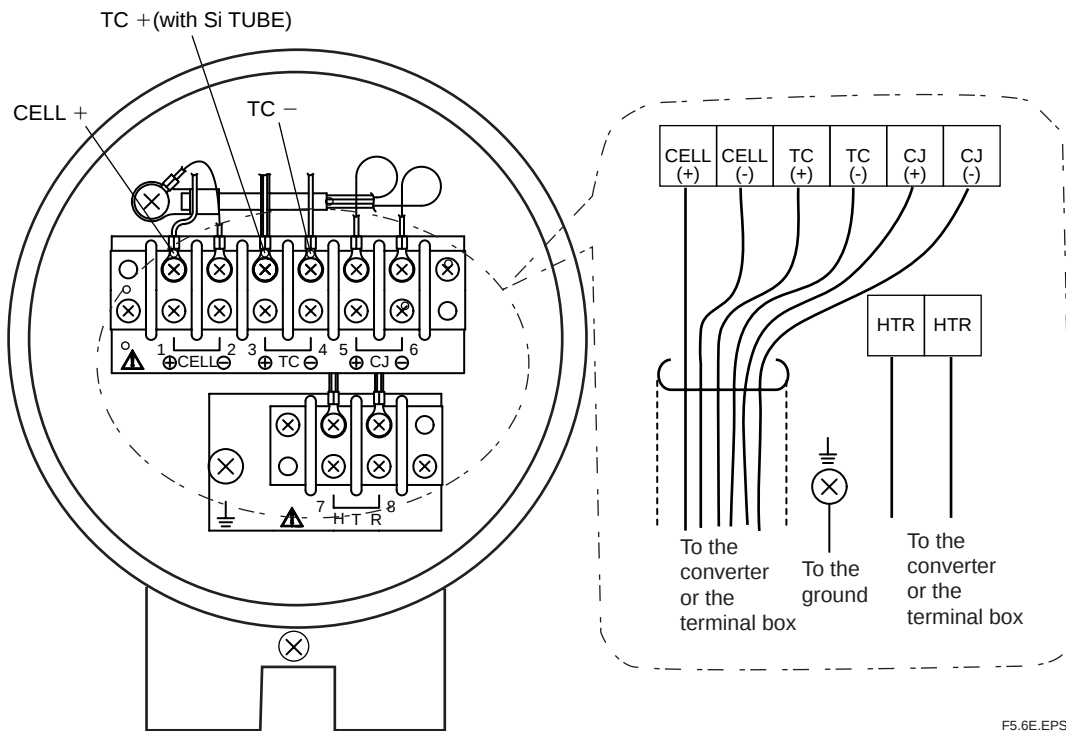

Figure 5.6 Detector terminals
- (2) If the ambient temperature at the location of wire installation is 80 to 150° C, be sure to use a flexible metallic wire conduit. If a non-shielded “ 600V silicon rubber insulated glass braided wire “ is used, keep the wire away from noise sources to avoid noise interference.
- (3) Figure 5.6 shows the layout of the detector terminals.